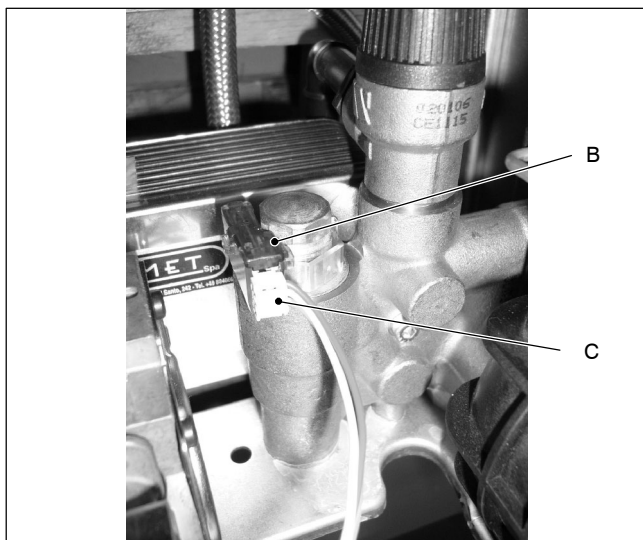

Fig. 55
- 2 Switch on the boiler and open a d.h.w. tap. The lamp *B* (Fig. 55) placed on the sensor body is switched on when the flow rate reaches about 2,5 litres/min'.
- 2 Disconnect the connector *C* (Fig. 55) and remove the sensor by delicately levering downwards with a screwdriver.